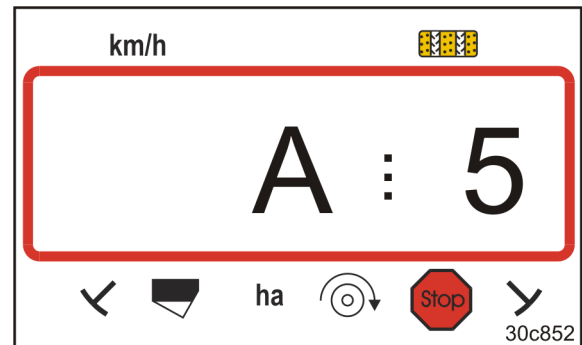

Fig. 30
- the display (Fig. 30) appears